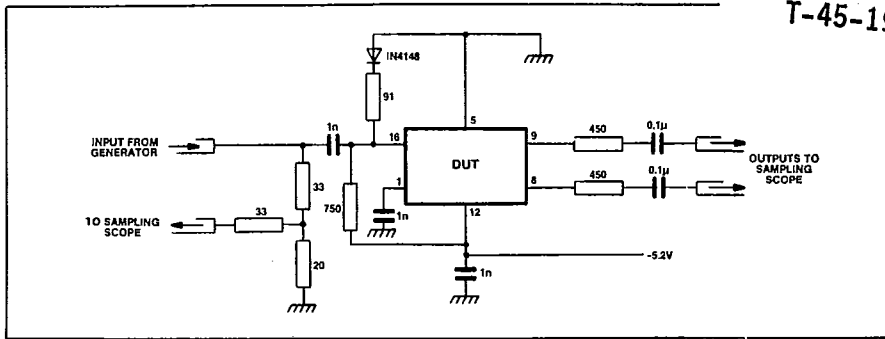

Fig.6 Test circuit
- The test configuration for dynamic testing is shown in Fig.6.
1. The clock and control inputs are ECL III compatible. There is an internal pulldown resistor to V_{EE} of 4.3k on each input and therefore any unused input can be left open circuit. If it is desirable to capacitively couple the signal source to the clock then an external bias is required as shown in Fig. 6. The external bias voltage should be -1.3V at 25°C.